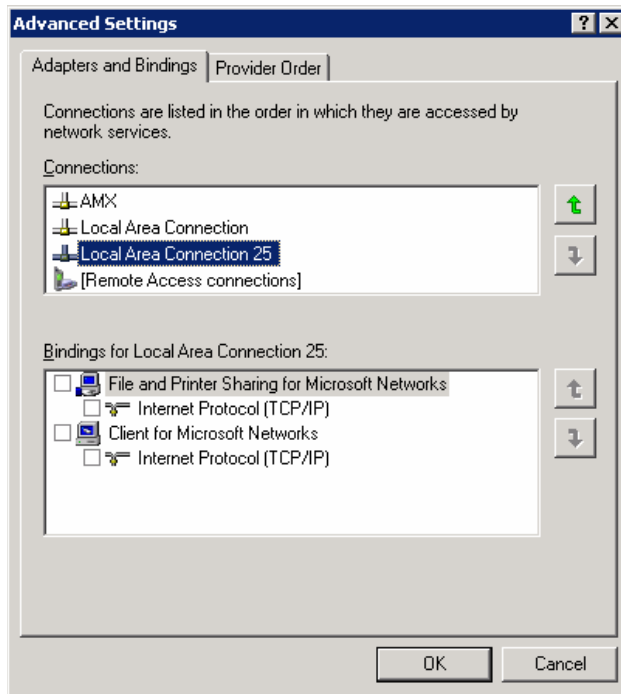

FIG. 89 Bindings for Local area list detail
5. In the lower *Bindings for Local Area Connection* field, unselect ALL bindings by clicking on the checkboxes by each binding to remove the checks from each box (FIG. 89).